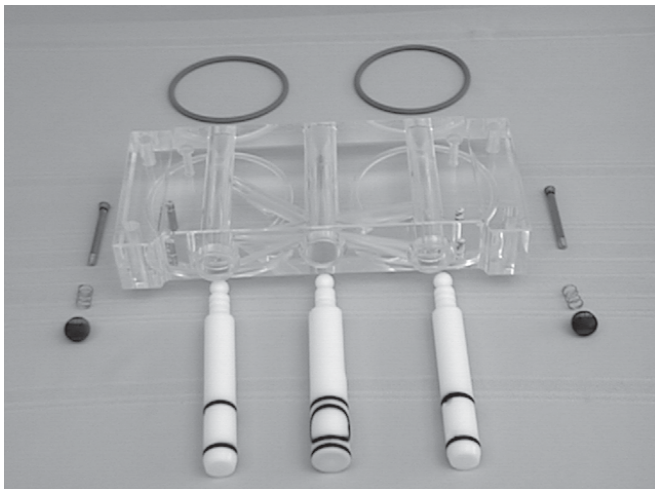

Figure 17. Front Door Disassembly
3. Remove the spigot through the bottom of the front door. Figure 17.